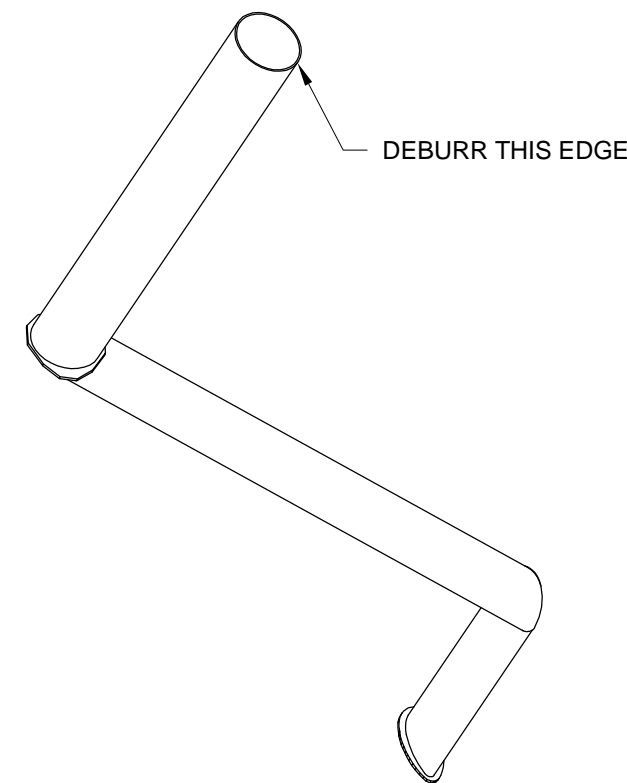

FIGURE 2: DEBURRING THE STEP
Step 2: Deburr the edge of the WD-1007 Step as shown in Figure 2.